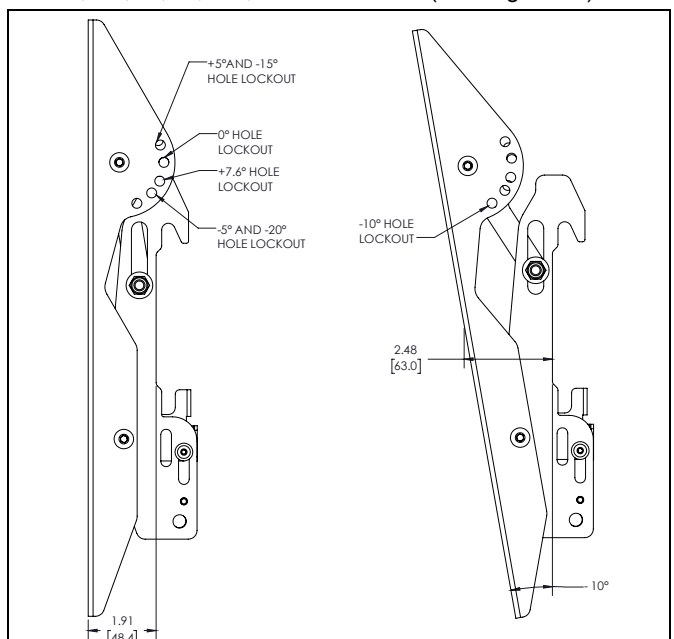
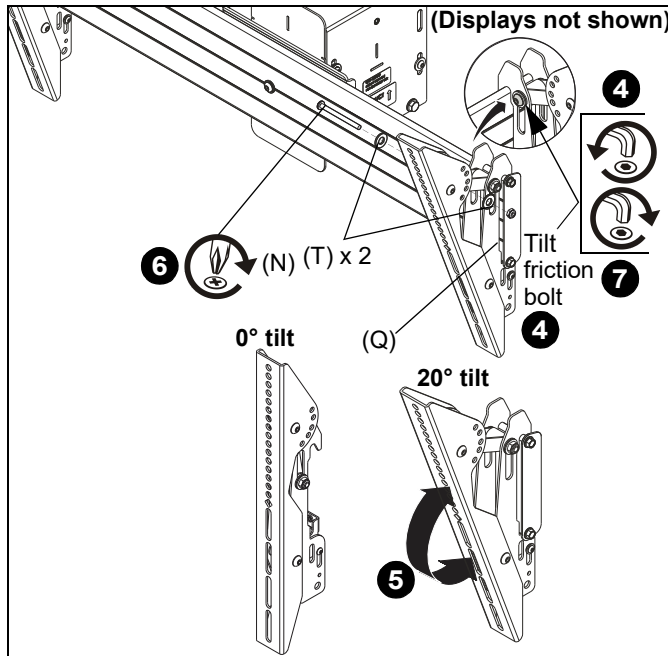

Figure 11
Figure 12
The interface brackets allow -7.6° to 20° tilt, and can be locked at -7.6°, -5°, 0°, 5°, 10°, 15° and 20° tilt. (See Figure 11)
6. If necessary, loosen button head tilt friction bolt (located on side of interface bracket). (See Figure 12)
7. Adjust tilt as required. (See Figure 12)
8. The tilt may be locked at -7.6°, -5°, 0°, 5°, 10°, 15° and 20° using one 1/4-20 x 2" Phillips head screw (N), one 1/4-20 lock nut (Q) and two 1/4" washers (T) per interface bracket. (See Figure 11) and (See Figure 12)